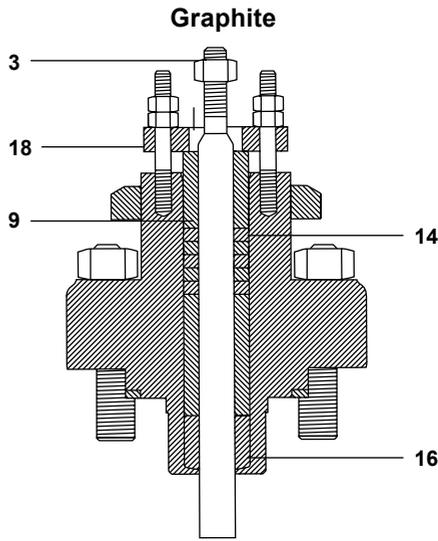

Fig. 8
- Remove the lock-nut (3), stuffing box nuts, gland flange and gland follower (18), ensuring that the groove is clean and undamaged, replace with new item.
- Remove the gland follower (9) and retain, withdraw the graphite packing (14) and discard. Remove the spacer and lower bearing (16). Clean and examine these components and the upper bearing replacing any that show signs of damage or deterioration.
- Clean the gland cavity and reassemble the gland components in the order shown in Figure 8. **Note** that the lower bearing must be fitted with the radiused edge downwards. When fitting the graphite seals, the scarf joints in each seal must be offset from the one below by 90° as shown in Figure 9: